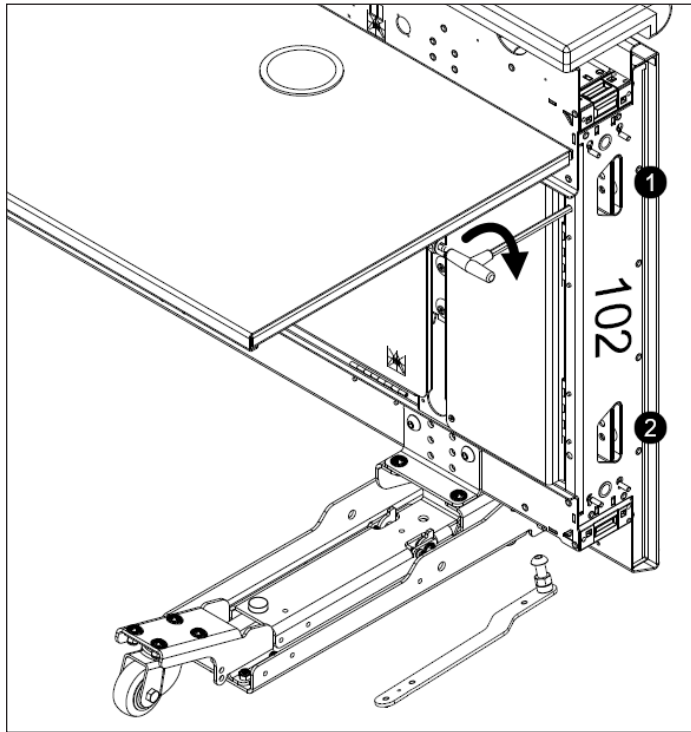

Figure 36: Latch Locations and T-Handle Wrench
- Using the provided 5/16" T-handle hex wrench, latch both latches on the left table to the right table (as viewed from the rear). The wrench must be rotated 285° or a little over a 3/4 turn to fully engage the latch. Refer to **Figure 36** for the location of these latches and proper T-handle wrench rotation. If it is difficult to turn the T-handle wrench, verify tables are pushed tightly together and aligned front-back.